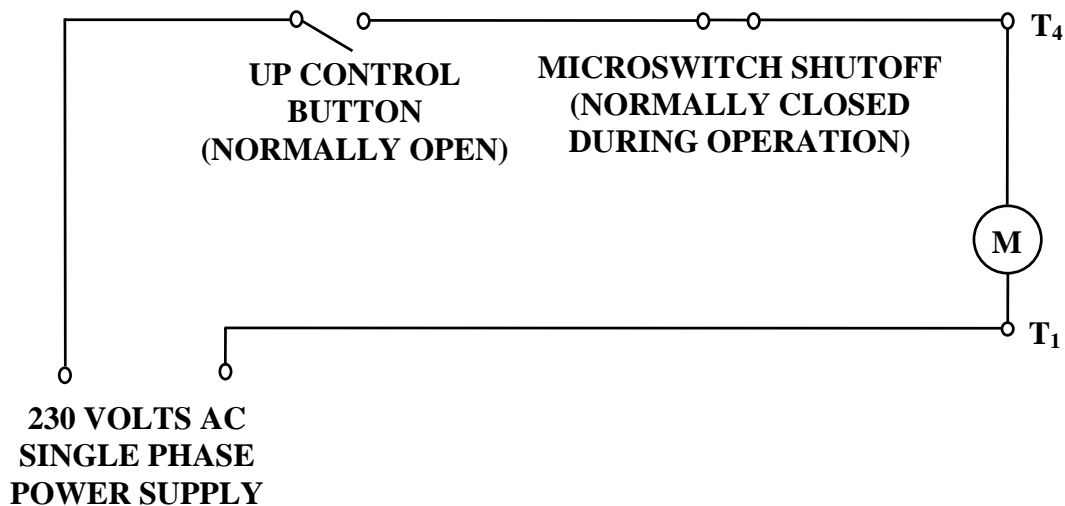

Figure 11 – Electrical Diagram
2. Bolt power pack to the mounting bracket on the power side tower using four (4) 5/16"-18UNC x 1"LG. hex head bolts, four (4) 5/16" ID lock washers, four (4) 5/16" ID flat washers and four (4) 5/16"-18UNC hex nuts. Do not tighten.
4. A **certified electrician** must connect the 230Volt/1Ph power to the motor. The electrical diagram is provided, refer to **Figure 11**.